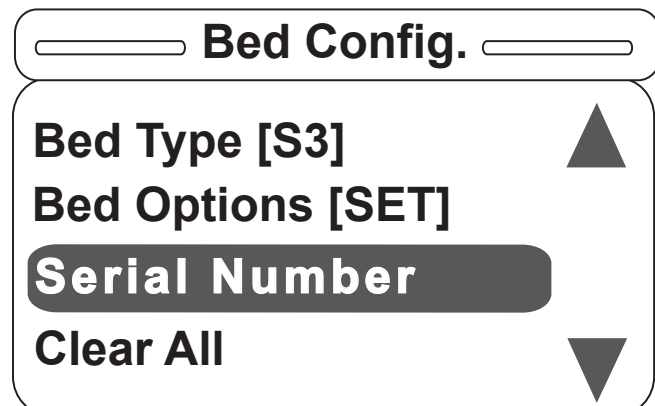

Figure S-18
18. Hitting “Exit” on the footboard panel while in the Bed Options screen will return the user to the Bed Config. main menu as shown in Figure S-18. Note that the user can see the state of the items previously set.